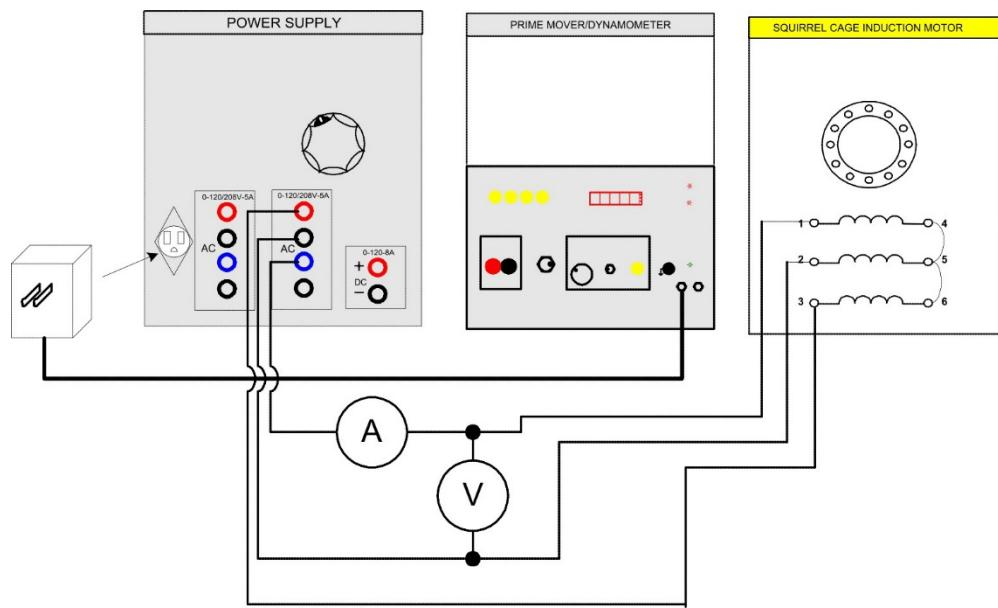

FIGURE 7.11
- Step 7. a) Connect the circuit shown in Figure 7.11.